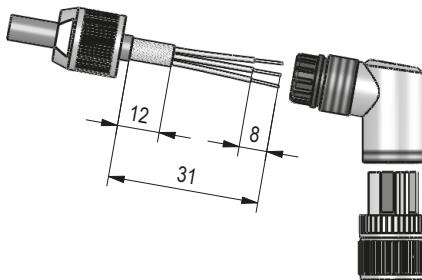

Fig. 6: Right angle mating connector M12 A coded
- Accessory SIKO art. no. "83091" M12 A coded (socket 4 pole Power) (Fig. 6).
### Mounting (Fig. 6)
### Changing the angle position (Fig. 6)